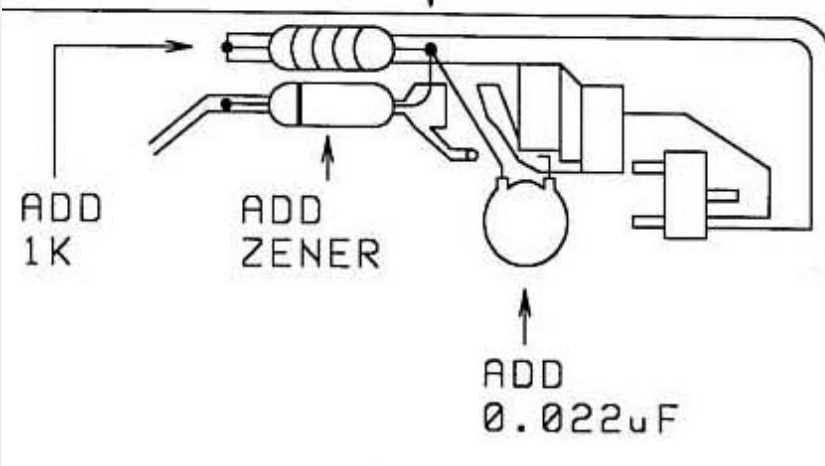

FIGURE 12
26. Place the 3.0V zener diode on the board. Size and cut the diode's cathode lead. Solder the lead to the board. Figure 12.
27. Place the 1K ohm resistor on the board. The body of the resistor must be parallel to the diode. Size and cut the resistor's left hand lead. Solder the lead to the board. Figure 12.
28. Bend the diode's anode lead and solder it to the resistor's right hand lead. Do not allow the leads to touch the board. Trim the leads after soldering. Figure 12.
29. Prepare the 0.22 μ F capacitor for installation. Place the component on the board to size and cut the leads. Figure 12.
30. Solder the left hand lead to the junction of the zener diode and 1 K ohm resistor. Do not let the connection touch the board. Figure 12.
31. Solder the right hand lead to the board as shown. Figure 12.